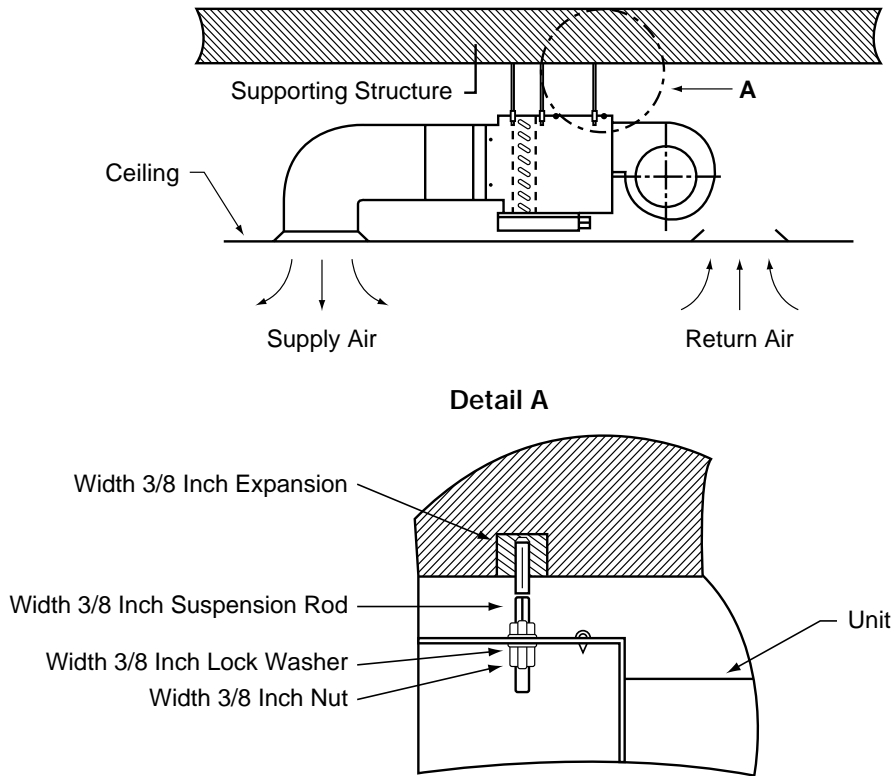

Figure 4
2. Put the upper W 3/8" nuts and W 3/8" lock washers on suspension rods to prevent unit from upward tilting during unit operation or duct installation, as shown in Figure 4 Typical Installation.
4. Put on the lower W 3/8" lock washers and then 3/8" nuts to secure the unit, as shown in Figure 4, Typical Installation.